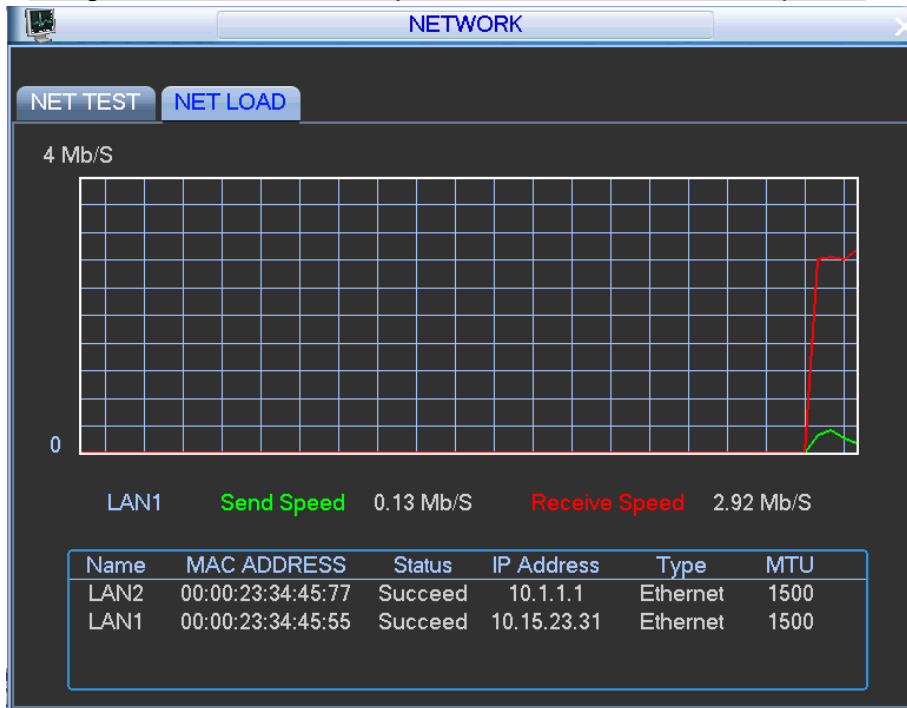

Figure 4-68
Step 1 On the main menu, from Info->Network->Network load, Enter Network load interface. See Figure 4-68.